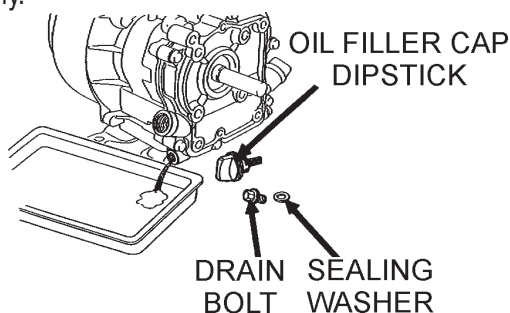

Figure 24. Engine Oil (Draining)
1. Drain the engine oil when the oil is **warm** as shown in Figure 24.